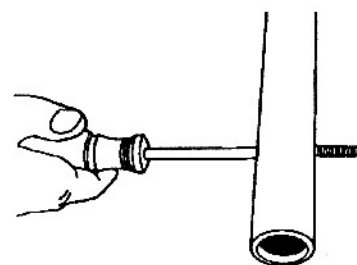

Fig. A-11
15. While holding the screw to the screwdriver, insert the screw through the far right hole of the front fence tube, as illustrated in Fig. A-11.